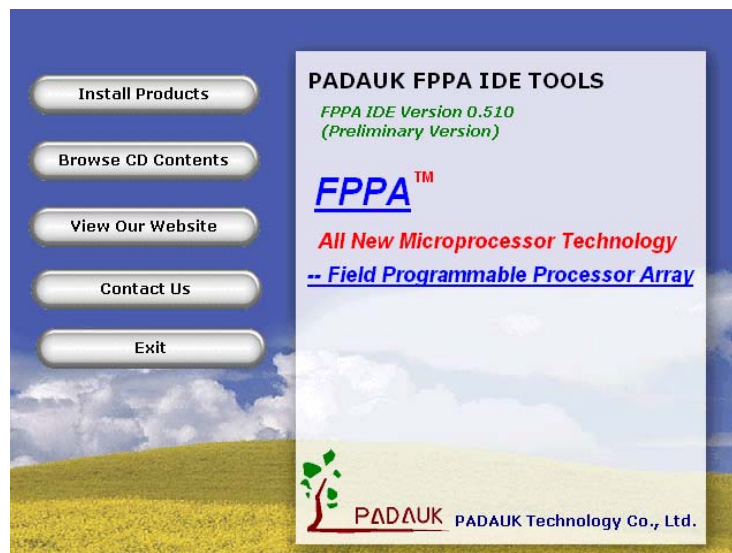

Fig.3-1: FPPA™ IDE Setup Screen
Step 1: If your PC has been set to CD-ROM auto-load mode, the IDE software will be installed automatically; If not, please execute the setup.exe in the root directory of CD-ROM, the window for IDE setup will be the Fig. 3-1.